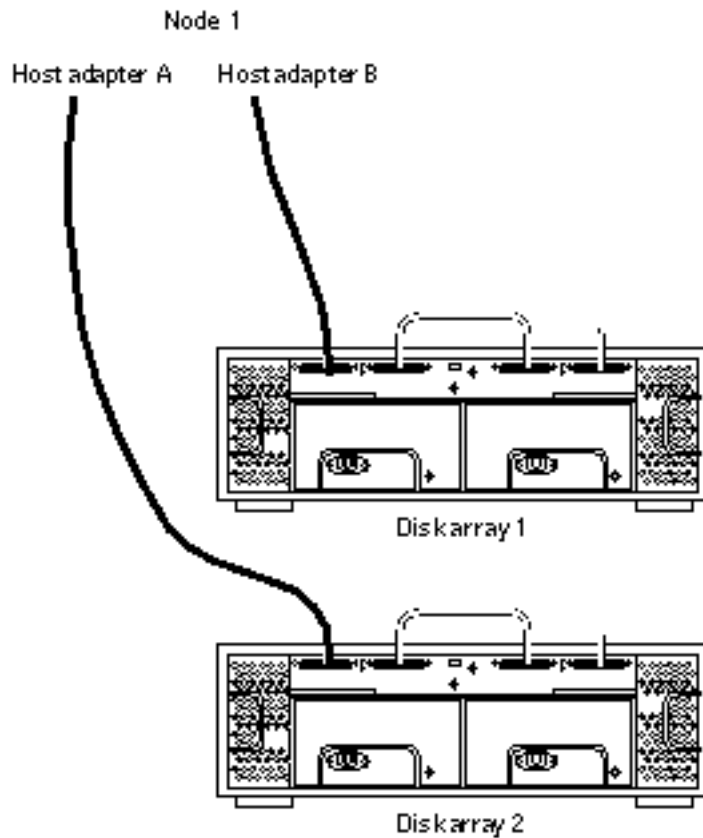

Figure 5-2 Example of a StorEdge D1000 disk array mirrored pair
4. Connect the differential SCSI cable between the node and the disk array as shown in Figure 5-2.